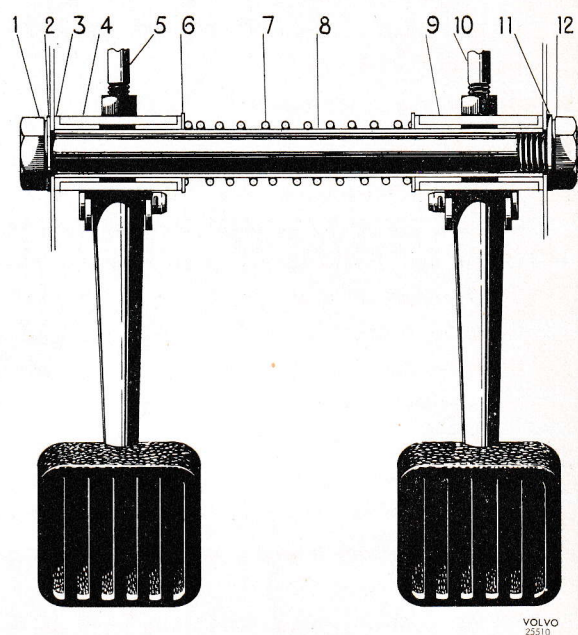

Fig. 15. Pedal shaft.
1. Remove the split pins and bolts in the pedals. Remove the return springs. Slacken the bolt and nut for the pedal shaft (8) Fig. 15. Remove the pedals (4,9) and shaft.
2. Knock out the bushings (3) with a suitable drift. Press in the new bushings.